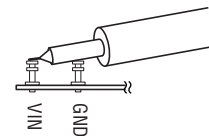

Figure 2. Measuring Input or Output Ripple
**NOTE:** When measuring the input or output voltage ripple, care must be taken to avoid a long ground lead on the oscilloscope probe. Measure the input or output voltage ripple by touching the probe tip directly across the input or output and ground terminals. See Figure 2 for proper scope probe technique.